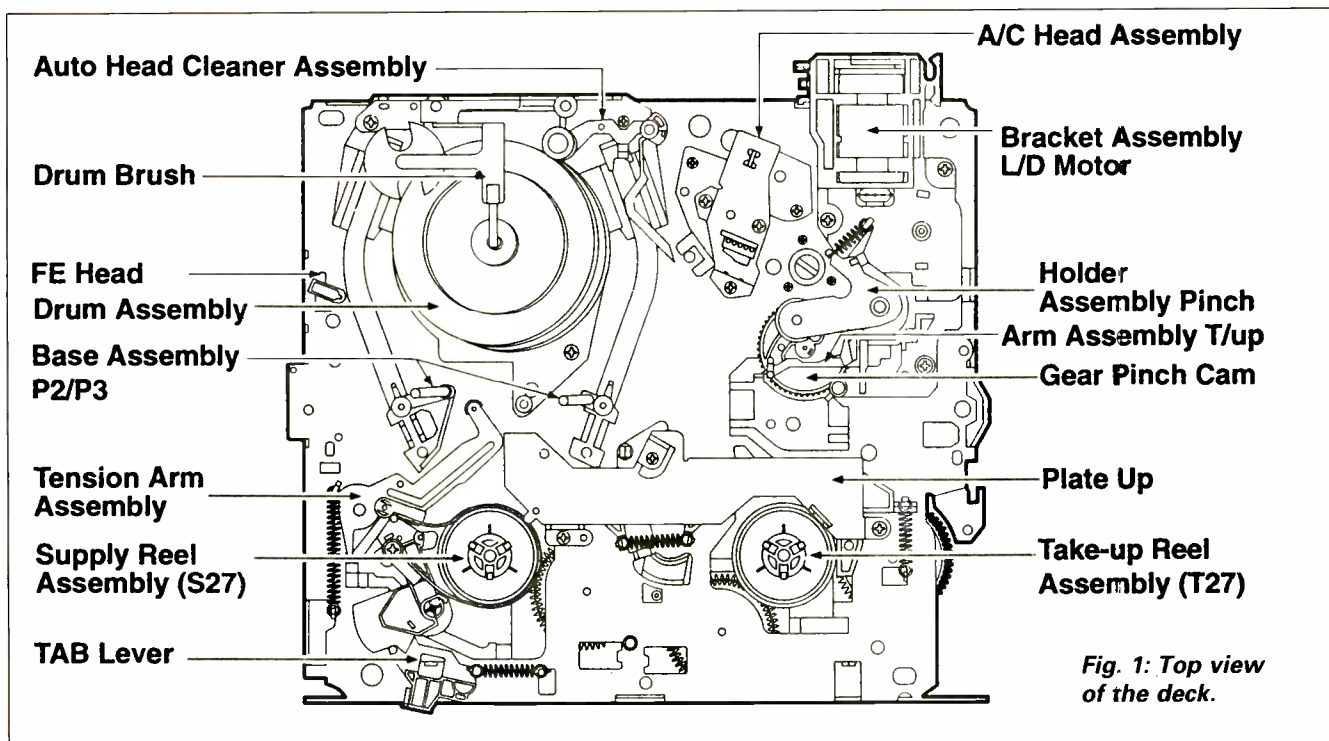
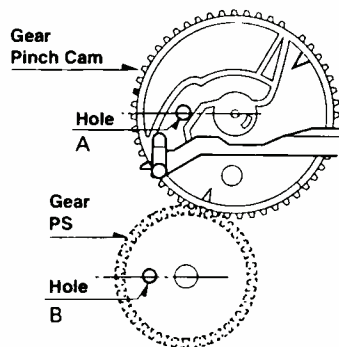
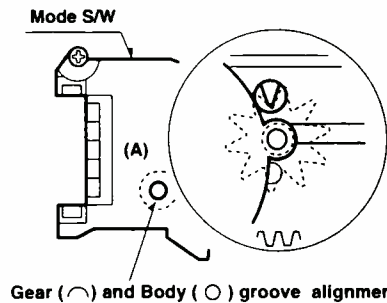

Fig. 1: Top view of the deck.
Fig. 3: Top deck timing alignment.
Fig. 4: Underside deck timing alignment.
The deck layout is shown in Figs. 1 and 2. Alignment of the datum marks for correct mechanism timing is simple, see Fig. 3. Ensure that the smaller (A) of the two holes in the pinch-cam gear is aligned with the hole in the chassis beneath. Then check that hole B in the PS gear, which meshes with the pinch-cam gear, is aligned with the hole in the raised portion of the chassis above it. Then turn the deck over. The hole in the body of the mode switch, see Fig. 4, should align with a hole in the mode-switch gear. The 'vee' index mark in the slider plate should coincide exactly with the vee between the teeth of the gear beneath it.
jam has occurred. It's not normally necessary to remove the entire deck and retime the mechanism. Remove the platform and set the carriage to the rest position, i.e. ready to accept a cassette. Then spin the loading motor until the small hole A in the cam gear lines up with the hole in the deck (see Fig. 3). Spin the loading motor manually using a small screwdriver or use a couple of AAA cells to apply 3V. All should be well once the loading platform has been repositioned. But this is sometimes not the whole solution. If resetting the loading platform and the cam gear position doesn't restore normal operation the mode switch could be dirty or damaged.